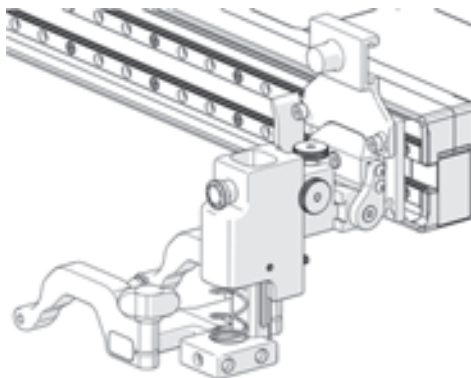

Figure 4-85 Lowered toward scan surface
2. Slowly lower the probe holder toward the scan surface (see Figure 4-85 on page 155).